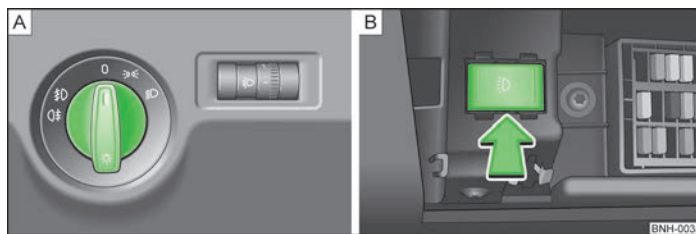

Fig. 18 Dash panel: Light switch/fuse box: Switch for daytime running lights
On models fitted with **right-hand steering** the position of certain switches differs from that shown in » Fig. 18 on page 34. The symbols which mark the switch positions are identical, however.
- Turn the light switch » Fig. 18 - A to position $\Rightarrow \leftarrow$.
- Turn the light switch » Fig. 18 - A to position 0.
- Turn the light switch » Fig. 18 on page 34 -  into the position  and lock the vehicle.